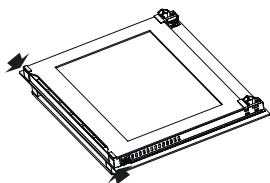
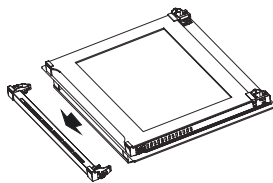
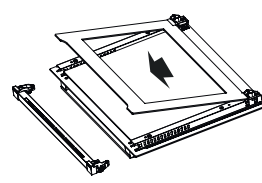

Fig. 10
Fig. 11
Fig. 12
1. Press the plastic latches on the left and right sides as shown in Figure 10 and lift the the profile by pulling it towards you as shown in Figure 11. Glass will be free after the profile is removed as shown in Figure 12. Carefully pull the glass that has become free toward you. If necessary, the middle glass can also be removed in the same way. The outer glass is fixed to the oven door profile. You may easily clean the glasses after they have been separated. Once the cleaning and maintenance is complete, you can replace the glasses and the profile by performing the removal procedure in reverse. Make sure that the glass is inserted in the correct direction and that the profile is seated properly.